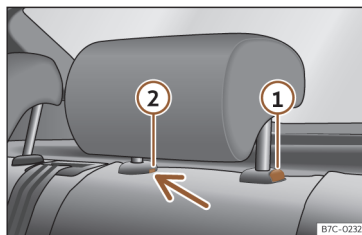

Fig. 89 Rear headrest: removal.
- Press button >>> Fig. 89 ①, while simultaneously pressing on the safety hole ② with a flat screwdriver a maximum of 5 mm wide, and remove the headrest.